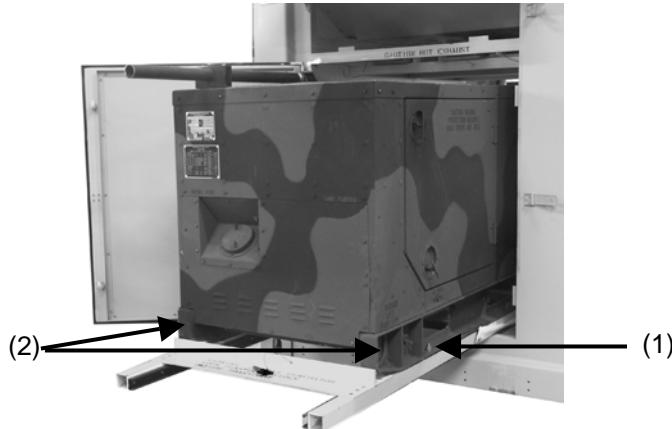

Figure 4-16. Generator slid out of mechanical room.
3. Slide generator out as far as it will go to one side (Fig.4-16).